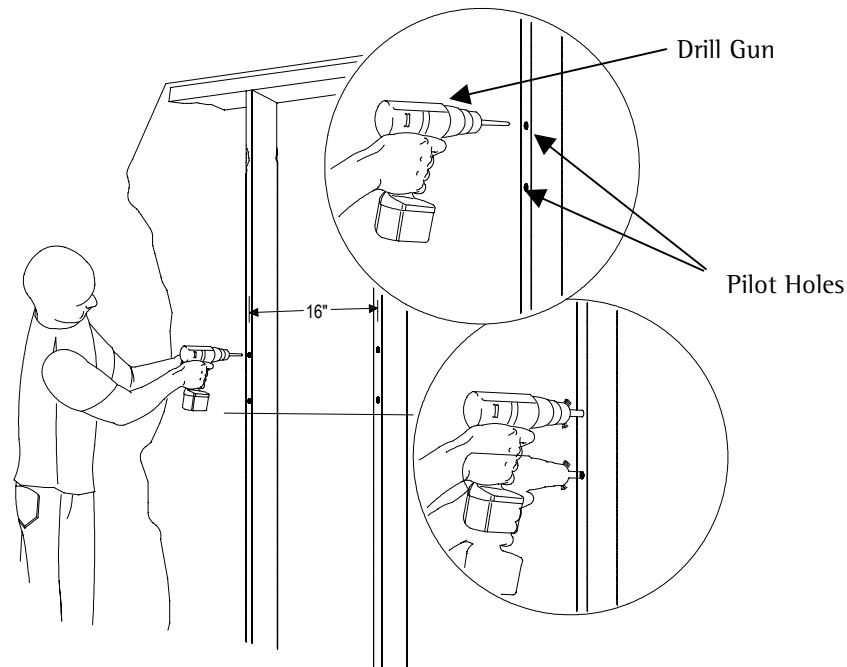

Figure 12. Mounting Surfaces
3. Use the information below when mounting to the following surfaces (Figure 12):
**Wood Studs:** Drill four (4)  $\frac{1}{4}$ " pilot holes to the marked wall.
**Concrete Wall:** Drill four (4)  $\frac{3}{8}$ " pilot holes to the marked wall